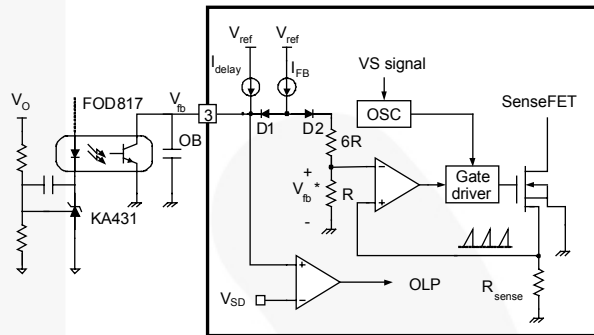

Figure 14. Valley Switching Pulse-Width Modulation (VS-PWM) Circuit
2. Feedback Control: This device employs current-mode control, as shown in Figure 14. An opto-coupler (such as the FOD817) and shunt regulator (such as the KA431) are typically used to implement the feedback network. Comparing the feedback voltage with the voltage across the R_{sense} resistor makes it possible to control the switching duty cycle. When the reference pin voltage of the shunt regulator exceeds the internal reference voltage of 2.5V, the opto-coupler LED current increases, pulling down the feedback voltage and reducing the drain current. This typically occurs when the input voltage is increased or the output load is decreased.
2.1 Pulse-by-Pulse Current Limit: Because current-mode control is employed, the peak current through the SenseFET is limited by the inverting input of PWM comparator (V_{FB}^*), as shown in Figure 14. Assuming that the $225\mu A$ current source flows only through the internal resistor ($6R + R = 12.6k\Omega$), the cathode voltage of diode D2 is about 2.8V. Since D1 is blocked when the feedback voltage (V_{FB}) exceeds 2.8V, the maximum voltage of the cathode of D2 is clamped at this voltage, clamping V_{FB}^* . Therefore, the peak value of the current through the SenseFET is limited.